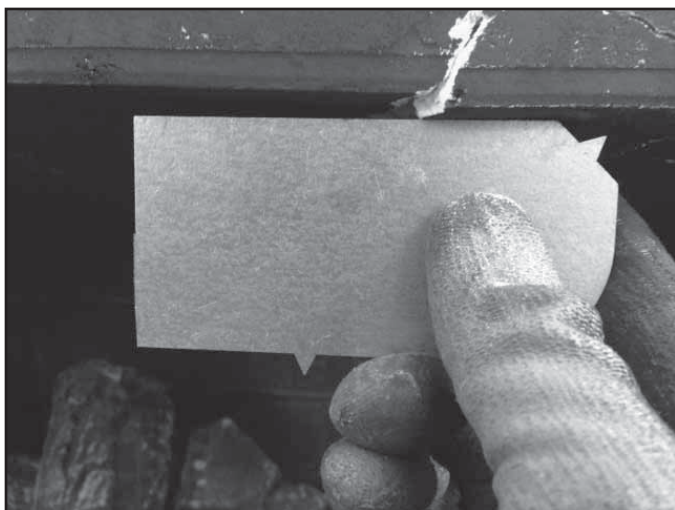

Figure 14.1 Surface plane of firebox is comprised and should be replaced.
- Cracks compromising the surface plane of the firebox. See Figure 14.1.